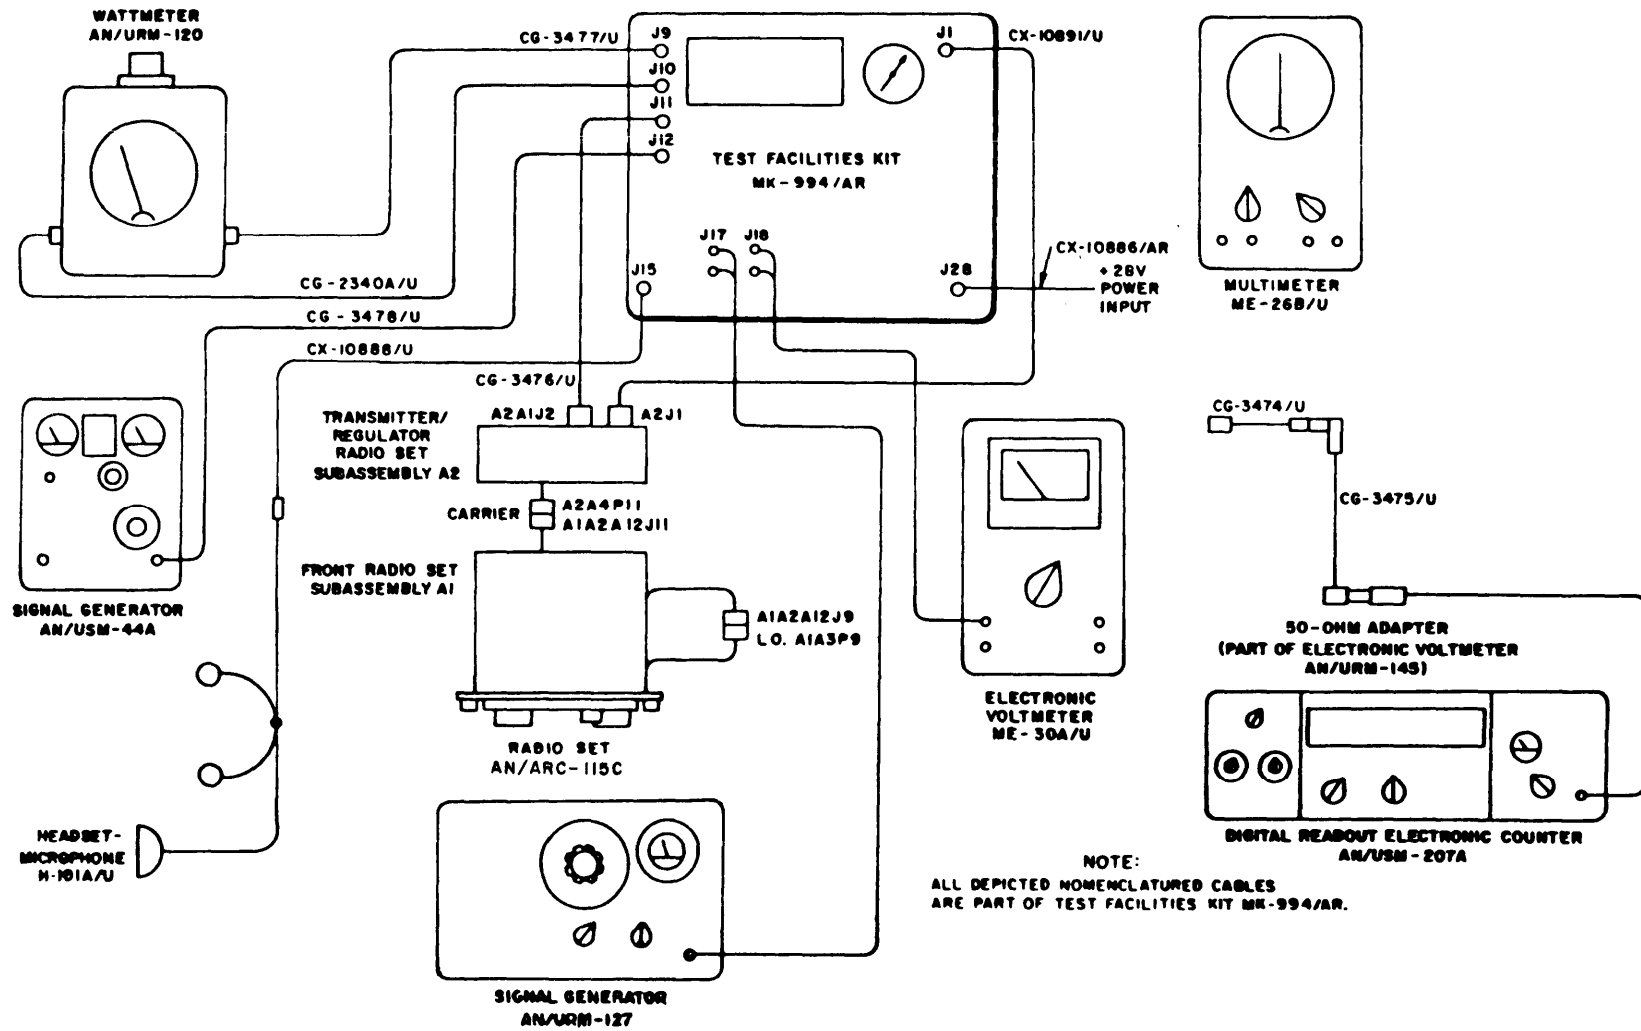

Figure 2. Radio Set Test Setup Diagram
- (1) Mate the transmitter/regulator radio set subassembly A2 to the radio set.
- (2) Connect the test equipment as shown in figure 2.
- (3) Adjust the dc power input to J28 on the test facilities kit to 28 Vdc \pm 0.5.
- (4) Perform the test procedures given in table 1.